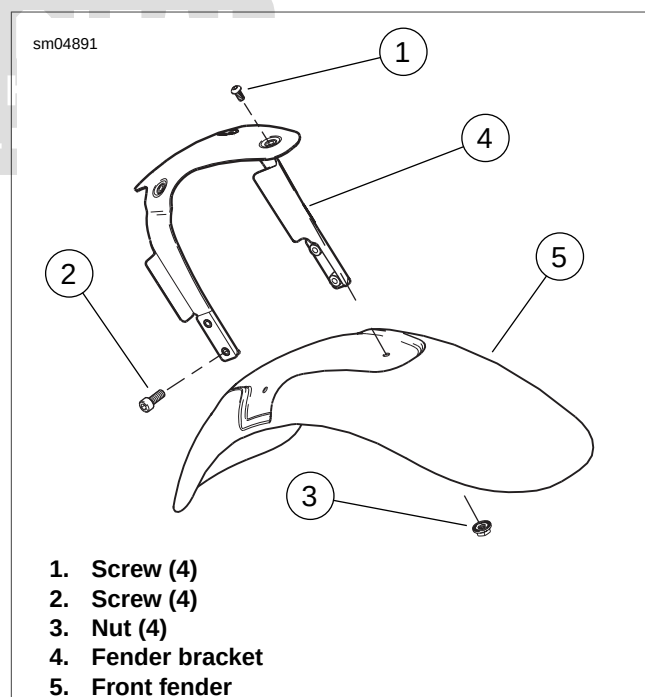

Figure 2-231. Front Fender: XR Models
1. See Figure 2-231. Remove four screws (2) to detach front fender (5) from front fork sliders.
3. Remove four screws (1) and nuts (3) to detach front fender from fender bracket.
1. See Figure 2-231. Carefully position fender bracket (4) over front fender (5). Secure with four screws (1) and nuts (3). Tighten to 36-60 **in-lbs** (4.1-6.8 Nm).
3. Secure front fender assembly using four screws (2). Tighten to 15-19 **ft-lbs** (20.4-25.8 Nm).